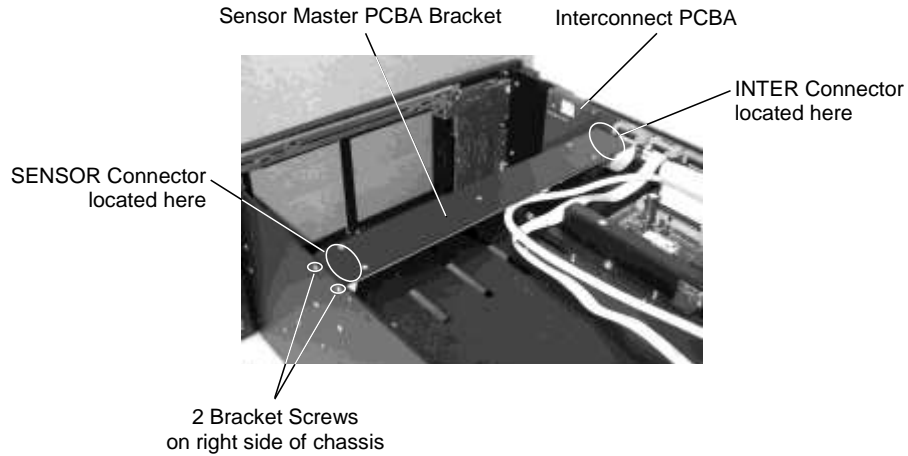

Figure 7-36 The Sensor Master PCBA Bracket
3. Disconnect the ribbon cable from the INTER connector on the left side of the PCBA as seen from the front of the RLS. See Figure 7-36.
4. Disconnect the ribbon cable from the SENSOR connector on the right side of the PCBA as seen from the front of the RLS. See Figure 7-36.
4. Reconnect the ribbon cable to the INTER connector on the left side of the PCBA as seen from the front of the RLS. See Figure 7-36.
5. Reconnect the ribbon cable to the SENSOR connector on the right side of the PCBA as seen from the front of the RLS. See Figure 7-36.